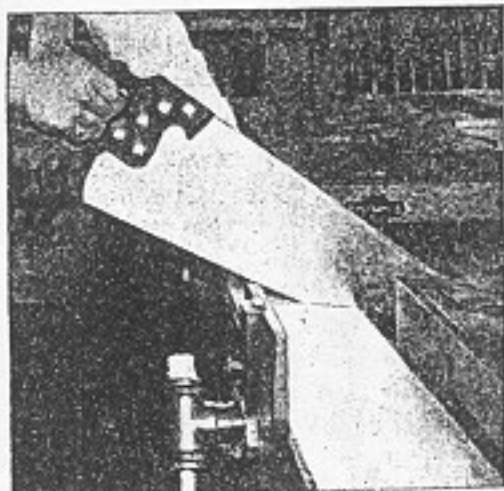

Fig. 65. Crosscutting in a bench vise.
5. Some prefer to hold the saw handle with four fingers, as shown in Figure 65, while others extend the index finger along the handle in order to better guide the saw (Fig. 67).
25. Crosscutting in Bench Vise. A short board may also be crosscut in a bench vise. In this case it should always be clamped flat in the vise and never on edge (Fig. 65). If placed on edge the saw cannot be held at the proper angle. It comes in contact with too small a portion of the wood at a time. This causes the saw to jerk and chatter.